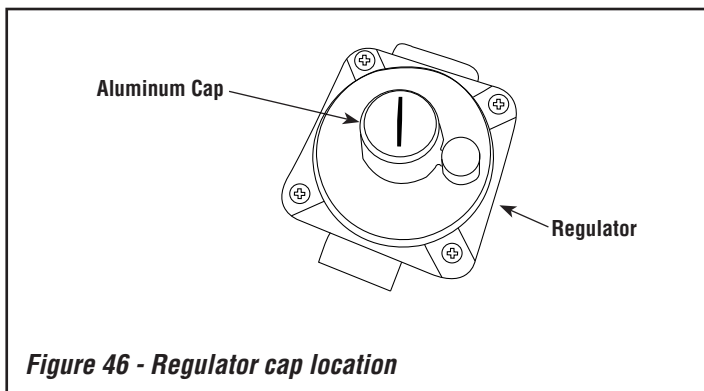

Figure 46 - Regulator cap location
Step 4. Locate the gas regulator on the opposite side of the valve box. Using a regular size flat bladed screwdriver to remove the aluminum cap and washer from the regulator. See *Figure 46*.